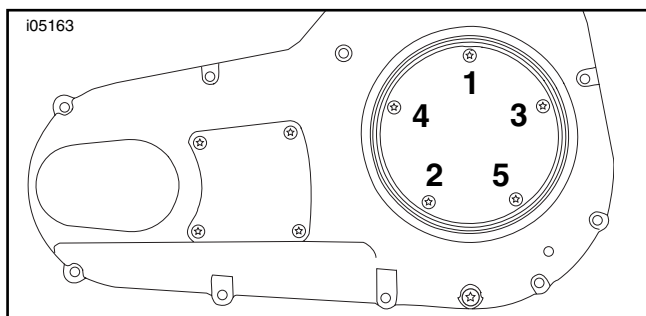

Figure 10. Torque Sequence, Primary Chaincase Cover
4. See Figure 10. Tighten the derby cover screws, in the sequence shown, to 84-108 **in-lbs** (10-12 Nm).